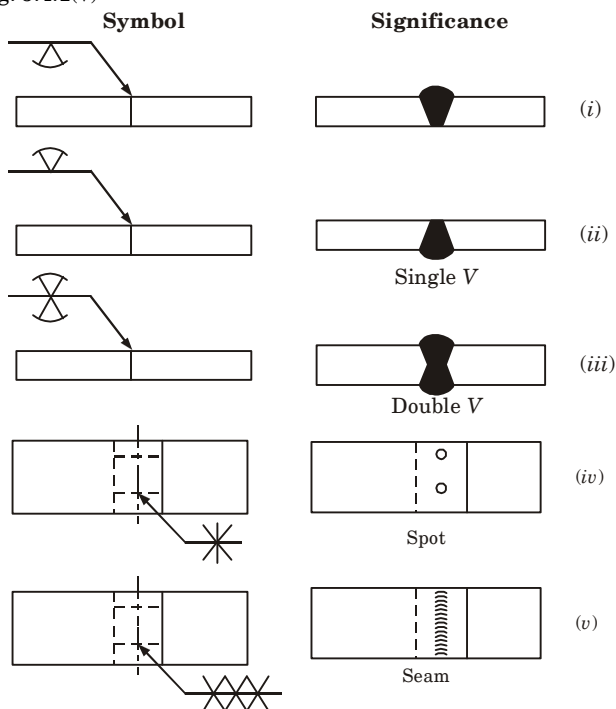

Fig. 5.4.1. Weld location.
- When the weld symbol is below the reference line the weld is made on the same side of the joint as the arrow head, *i.e.*, the arrow side Fig. 5.4.1(i).
- When the weld symbol is above the reference line, the weld is made on the other side of the joint opposite the arrow head Fig. 5.4.1(ii).
- When the weld symbol is on both sides of the reference line, the welding is to be carried out on both sides of the joint Fig. 5.4.1(iii).
- When resistance welds are to be indicated, the arrow shall point towards the centre line along which the welds are to be made Fig. 5.4.1(iv) and Fig. 5.4.1(v)